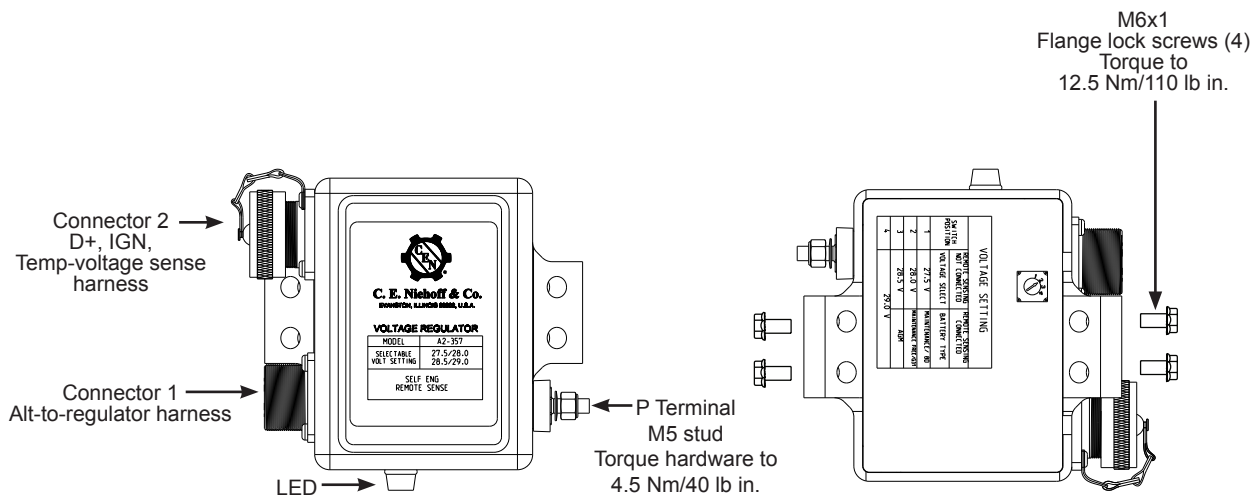

Figure 4: Regulator Connections
2. Mount regulator on alternator and secure it with 4 flange lock screws. Torque screws to 12.5 Nm/110 lb. in. See Figure 4.